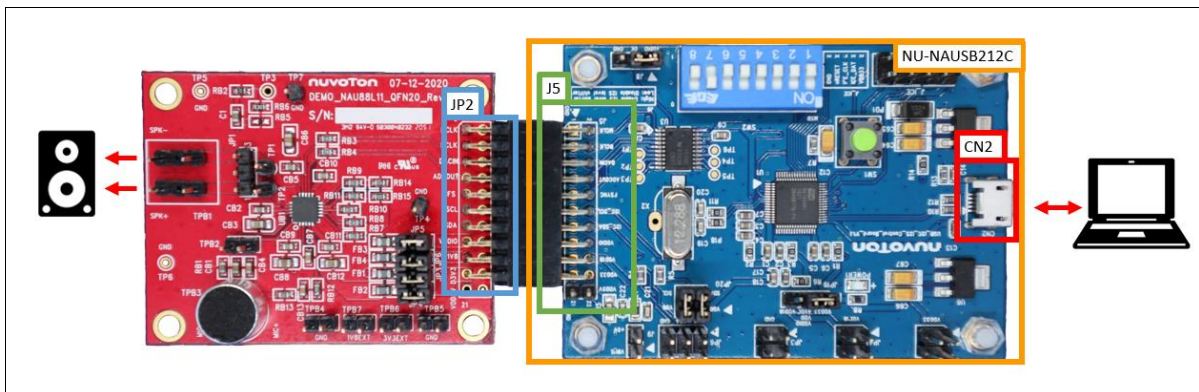

Figure 2-4 NU-NAUSB212C Connection
2. Connect J5 of NU-NAUSB212C to JP2 of NL-NAU88L11. Figure 2-4 is the diagram after two boards are connected to each other.